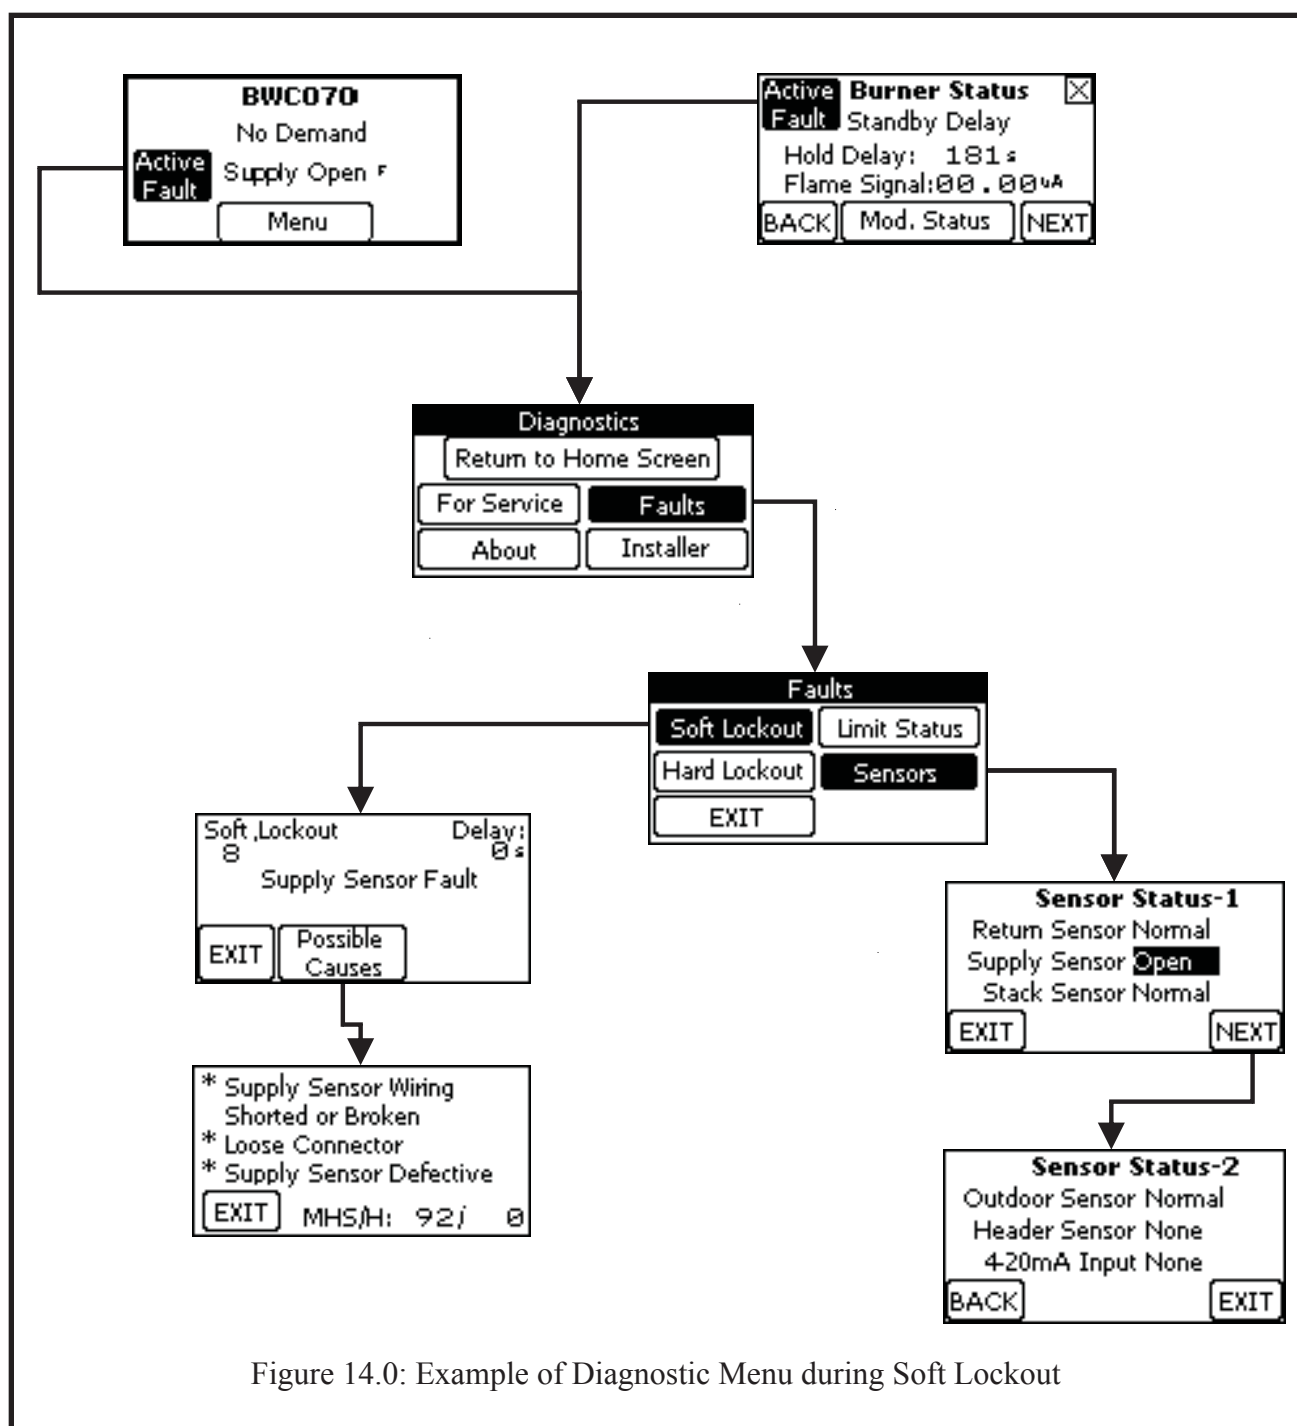

Figure 14.0: Example of Diagnostic Menu during Soft Lockout
The plain text display provided with this boiler provides an easy means of identifying most common problems. In the event that the control system detects a problem, such as an open limit or defective sensor, the Active Fault button shown in Figure 14.0 will appear and flash on both the Home Screen and the Burner Status Screen. Touching either Active Fault button will take the user to the Diagnostics Menu. From here, press the flashing button on each successive screen to reach a list of possible causes. In the case of a defective temperature sensor, a defect indicator will also show up on the status screens where the corresponding temperature is normally displayed. See Figure 14.0 for an example of this.
- 3) **Fault Menu** - Provides status of different types of faults by category. When a particular fault exists, the button for that category of faults will flash (see Figure 14.0 for an example of a faulty supply sensor). In the example shown in Figure 14.0, both the Sensor and Soft Lockout buttons flash on the Fault Menu because a defective supply sensor also causes a soft lockout. Fault categories include:
- a) **Soft Lockout** - A soft lockout prevents the boiler from firing until the problem has been corrected and, in some cases, a specified amount of time (up to 1 hour, depending on the nature of the fault) has passed. An example of the Fault Menu structure during a soft lockout is shown in Figure 14.0